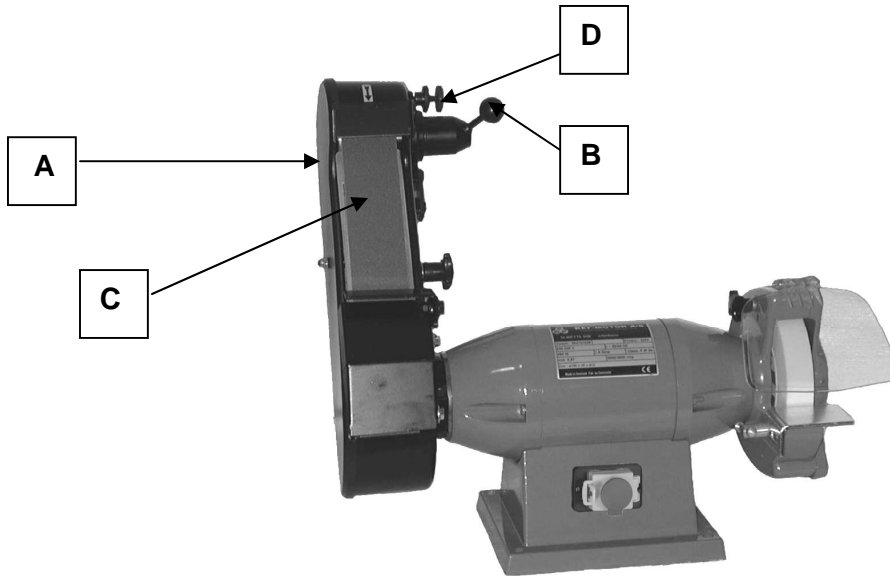

Fig.: 2.3.2
When the grinding belt has worn down it must be replaced, which is done in the following way: Remove the outer shield (A) (see *fig. 2.3.2*) of the casing and pull the handle (B) down. This releases the grinding belt (C), so it can be removed and replaced by a new one, which should be fitted in reverse order. Check that the direction of the arrows on the rear of the belt corresponds to the direction of rotation. Once the new grinding belt has been fitted, it is necessary to ensure a straight running action by adjusting the handle (D), which should be loosened until the grinding belt runs straight on the contact wheel. Then tighten the handle (B). **This adjustment of the grinding belt must only be carried out by pulling the grinding belt manually, and never with the machine switched on.**